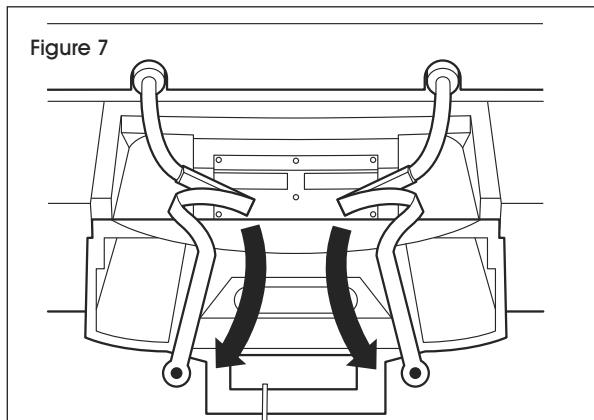

Figure 7
7. Remove rubber bands from activating strap and nozzle. Extend activating straps to the side. (See Figure 7)